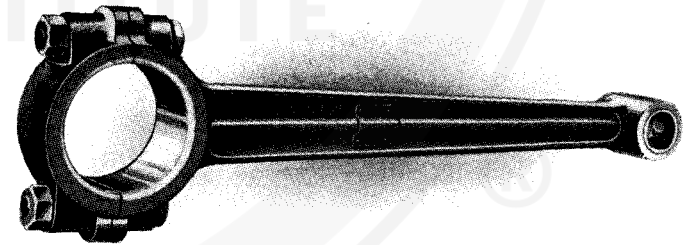

Fig. 8. Connecting Rod.
*The Connecting Rods* Fig. 8 are stampings in high tensile steel machined all over to a uniform weight. The big end is lined with a white metal bearing cast under pressure, a process which ensures effective adhesion of the white metal to the surface of the rod and a density of structure in the bearing metal giving great durability. The small end is bushed with a hard alloy phosphor bronze. Oil is conducted from the crank pin bearing to the small end bearing by means of a steel tube which is secured in the rod before the insertion of its bearings.